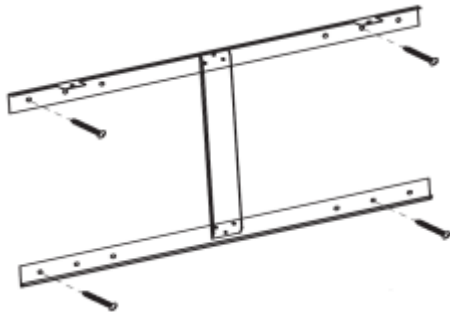

Figure 4
Step 4: Fix the mounting bracket using the four screws supplied (Figure 4).